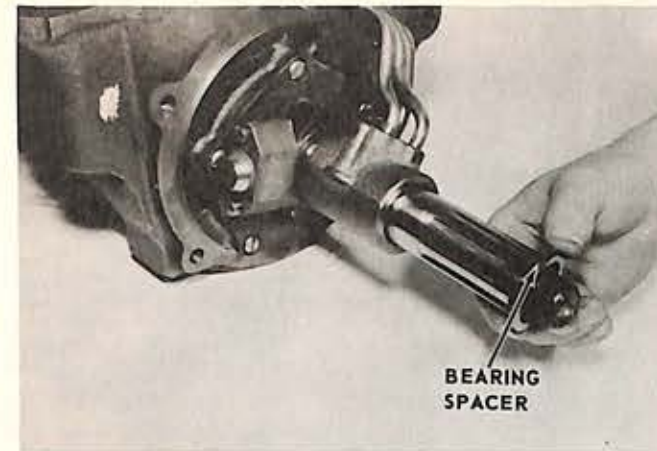

Fig. 43
7. Remove the rear bearing spacer washer (Fig. 43).